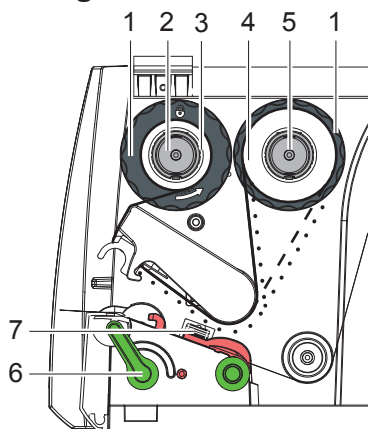
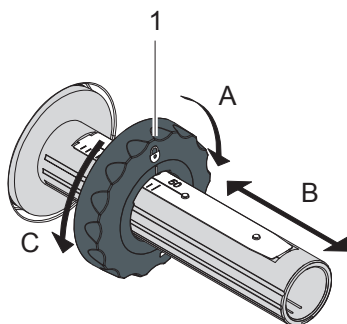

Fig. 12 Transfer Ribbon Feed Path
Fig. 13 Guide Adjustment
2. Turn lever (6) counterclockwise to open the printhead.
3. Set guide (1) on both hubs to the correct transfer ribbon width (Fig. 13):
- Hold hub and unlock guide (1) by turning it in direction A.
4. Load transfer ribbon (4) on the hub (5) until it reaches the guide in a way that the color coating of the ribbon faces the opposite side of the printhead after being loaded.
**To wind the ribbon a ribbon core (3) is needed that must be at least equal in width to the supply ribbon.**
5. Adjust position of the guide on the take-up hub to the width of the ribbon core (3) and push ribbon core on the take-up hub.
6. Guide transfer ribbon through the printing unit as shown in Fig. 12.
► **Guide transfer ribbon over the label sensor (7).**
7. Secure starting end of the transfer ribbon to the ribbon core (3) using adhesive tape. Ensure counterclockwise rotation direction of the transfer ribbon take-up hub.
8. Turn transfer ribbon take-up hub (2) counterclockwise to smooth out the feed path of the transfer ribbon.
9. Press printhead down and turn lever (6) clockwise to lock printhead.